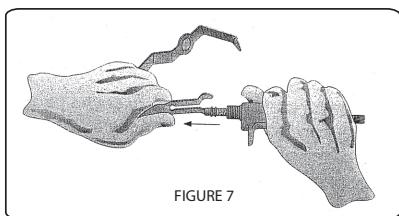

FIGURE 7
- 4 Remove the filter with the lad of the trigger guard if necessary (figure 7). Clean with the right solvent.